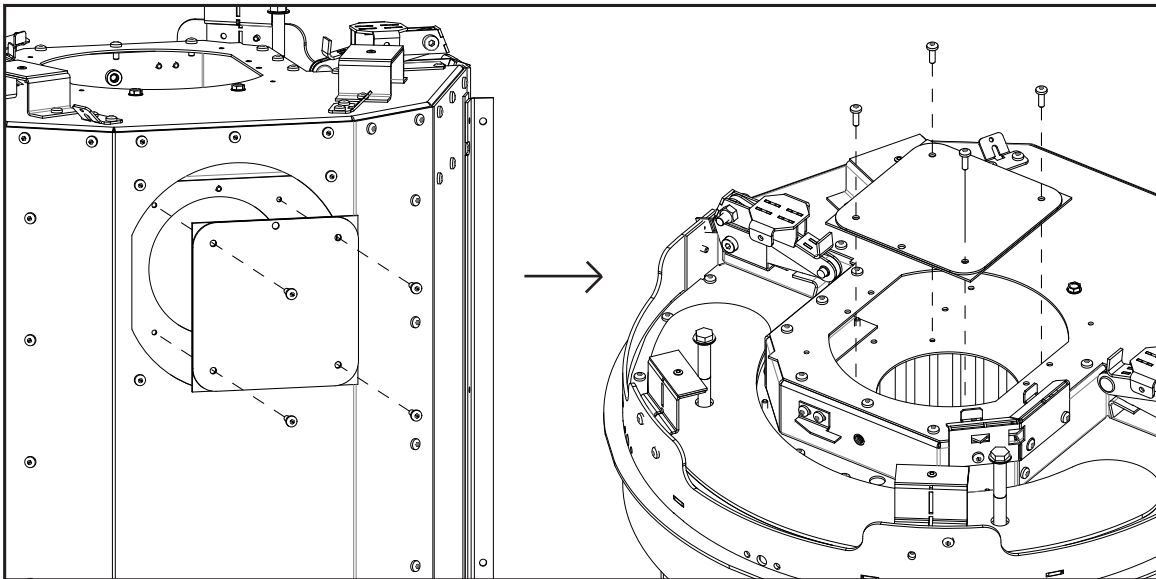

Figure 66: Inner Block-Off Plate Removal and Attachment
9. Remove the outer and inner block-off plates from the back of the unit and attach them to the top of the unit where the exhaust spigot and vent collar were attached (see Figure 66).